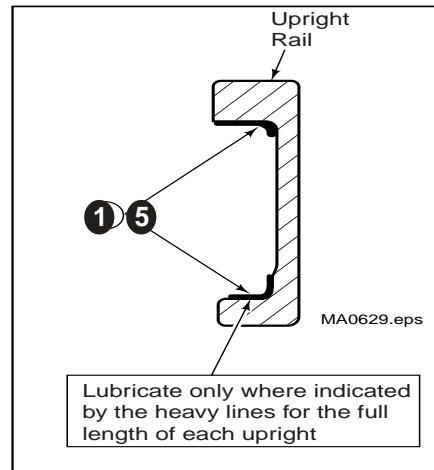

Figure 45. Rail Lubrication
1. Lubricate the outer upright rails with chassis lube or Kendall SR-12X. See Figure 45.
2. Place a 6 in. (15 cm) long, 2 X 2 in. (5 X 5 cm) angle iron between the top of the main lift cylinder and the crossmember. See Figure 45. Lower the crossmember onto the angle iron.